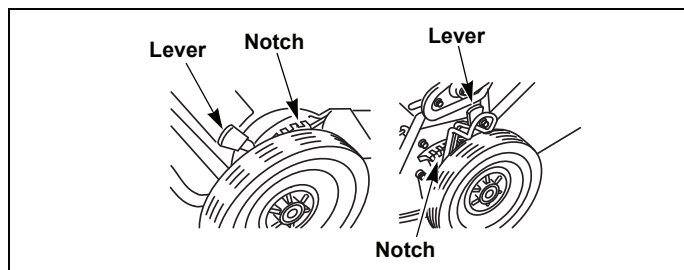
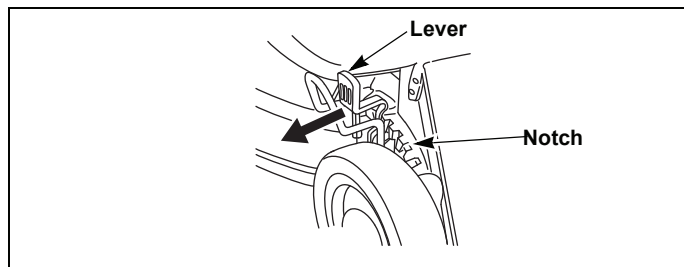

Fig. 4-30
Fig. 4-31
2. Push the cutting height adjustment lever so that it clears the height setting notches. Fig. 4-30 and Fig. 4-31